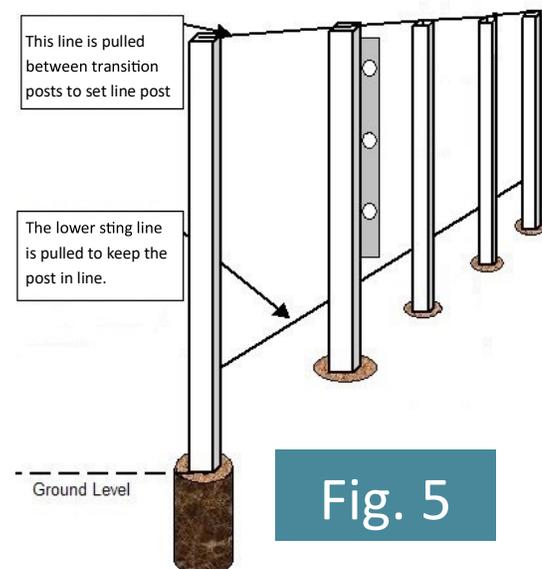

Fig. 5
1. When setting post place in hole so that when you plumb the post with a level the post is next to the string but not touching (see Fig. 5). Fill hole with concrete and plumb other side of post. Allow concrete to dry 24-48 hours.